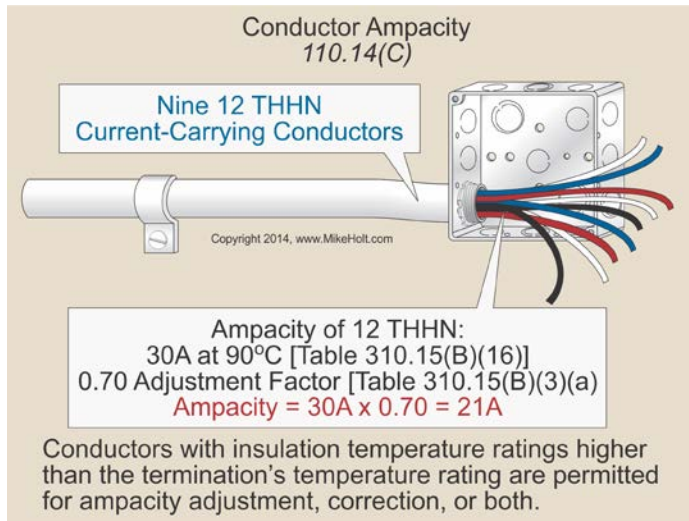

Figure 110–30
- Conductors with insulation temperature ratings higher than the termination's temperature rating can be used for ampacity adjustment, correction, or both. Figure 110–30